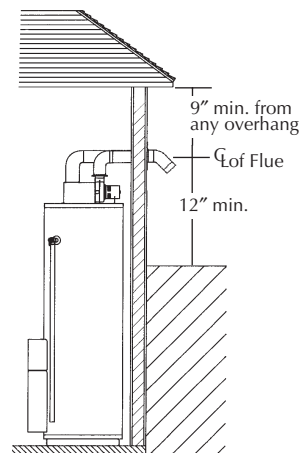

Figure 2
- 12" minimum from the ground and corners, 9" ceiling overhangs. Figure 2.